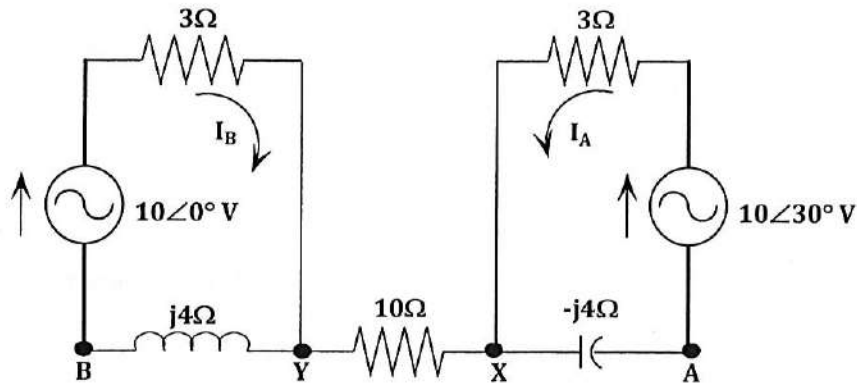

Figure Q1(a) / Rajah Q1(a)
- Q1 (a) In the network of Figure Q1(a), two active loops are connected by a $10\ \Omega$ resistor. Find the potential difference between A and B.